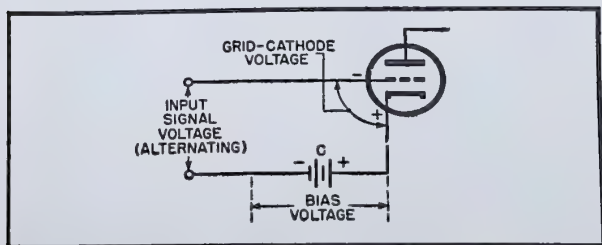

Fig. 10-14. Bias voltage representation.
The signal voltage normally applied to a control grid is alternating; at least it is a voltage that varies in amplitude and, perhaps, in polarity relative to the cathode. During the time that it is negative with respect to the cathode, freedom from grid current is obvious. But when it is positive, grid current is present unless some means is provided to keep the control grid at a negative potential during the positive portion of the input signal. The purpose of the negative grid bias is to establish this operating condition. Bias may be defined as the DC voltage between the grid and the cathode. It is represented by battery C in Fig. 10-14. The total voltage existing between grid and cathode is the signal voltage plus the bias voltage.
**Battery.** Bias is the DC voltage applied between grid and cathode of a vacuum tube. A battery (C) that supplies this bias is shown in Fig. 10-14. As shown, the battery's positive terminal is connected to the cathode, so a negative voltage is applied to the grid. The voltage that appears from grid to ground is equal to the bias voltage plus the instantaneous value of the signal voltage. In a fixed-bias arrangement such as that shown, the bias is independent of the input grid signal.